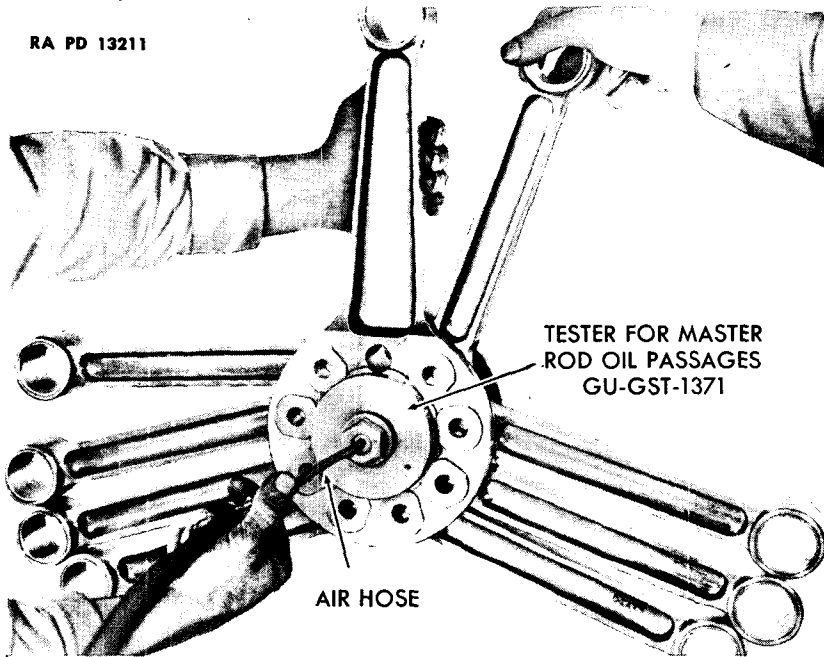

Figure 48—Testing Master Rod Oil Passages
67. TEST THE OIL PASSAGES IN THE MASTER ROD ASSEMBLY (fig. 48).
b. **Procedure.** After the master rod is assembled, the oil passages must be tested to make sure that they are clear, and also that there are no leaks. This is done by using the tester GU-GST-1371 for master rod assembly oil passages (fig. 48). A washer and plate of the tester are placed underneath one side of the master connecting rod bushing